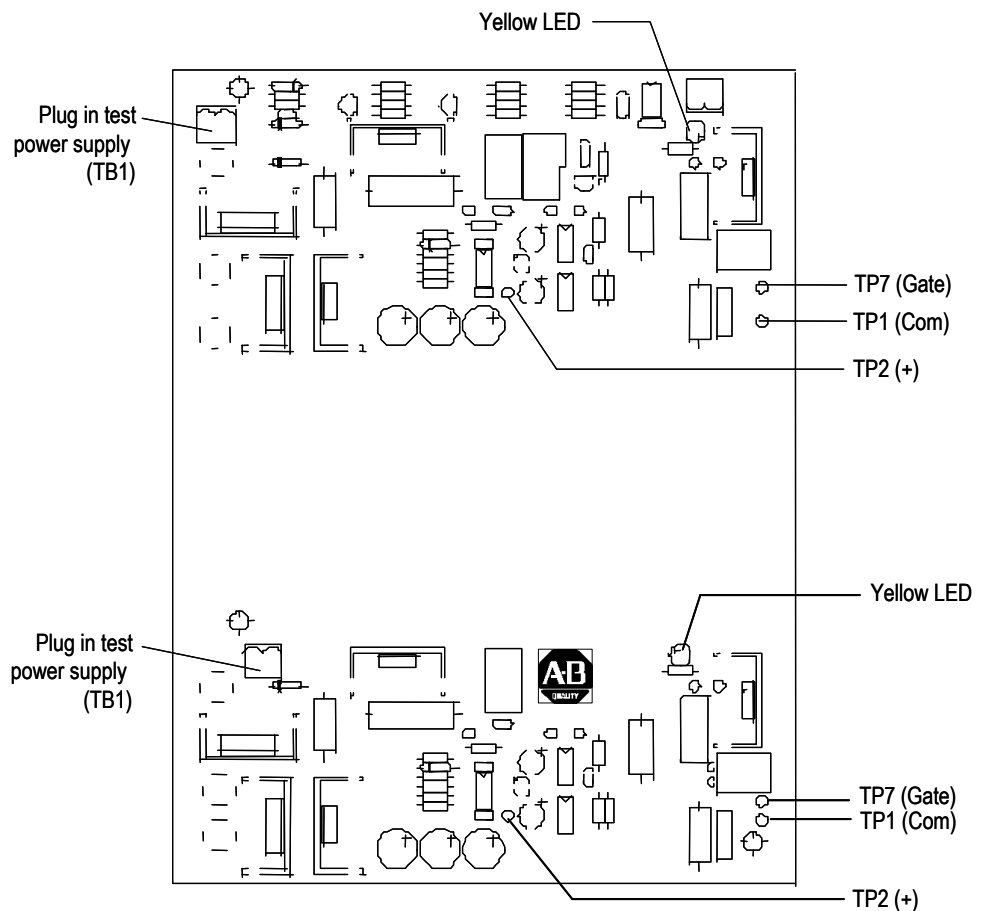
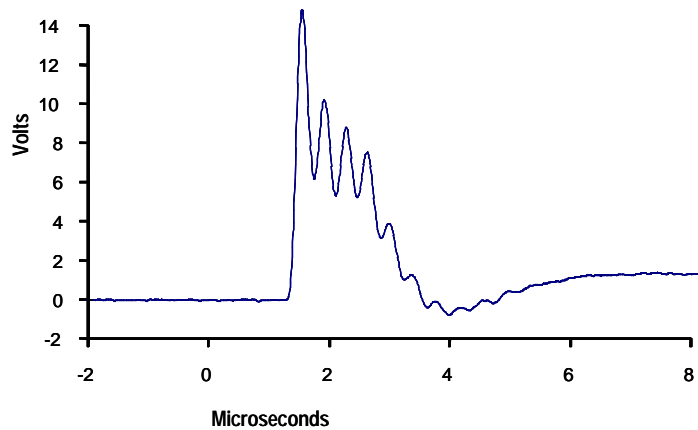

Figure 3.4 – Test Power Application on Gate Driver Board
Figure 3.5 – Gate Pulse Detail – Typical SCR (ABB)
5. Since the gate driver circuits normally receive power from the snubber circuits when the SMC is operating, an alternate source must be used for testing. Locate the Portable Test Power Supply that was included with the equipment, and verify that the rating corresponds to the available power system (i.e. 110/120 VAC or 220/240 VAC). Plug the unit into the power source, and plug the green connector into **TB1** on each of the gate driver sections (See Figure 3.4).
7. The gate-driver board voltage may be checked by connecting a DC voltmeter to **TP2 (+)** and **TP1 (-)** (See Figure 3.4). With the specified power supply connected, the voltage should be 12 ± 2 VDC.
8. The actual gate pulse may be checked by connecting an oscilloscope between **TP7** and **TP1** (See Figure 3.4). The pulse should appear as shown in Figure 3.5.